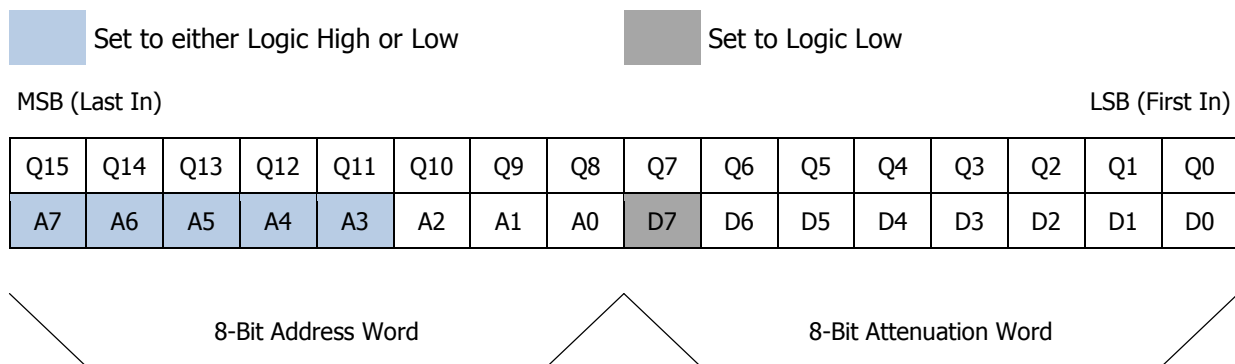

Figure 2 - Two 8-bit words are comprised of 16-bit serial in, parallel out shift register
- Note 3: The input 0.1dB compression point is used as a linearity figure of merit. The recommended maximum input power is specified as the lesser of the two values from Figure 1 and Figure 2 above.
Note 3: The input 0.1dB compression point is used as a linearity figure of merit. The recommended maximum input power is specified as the lesser of the two values from Figure 1 and Figure 2 above.